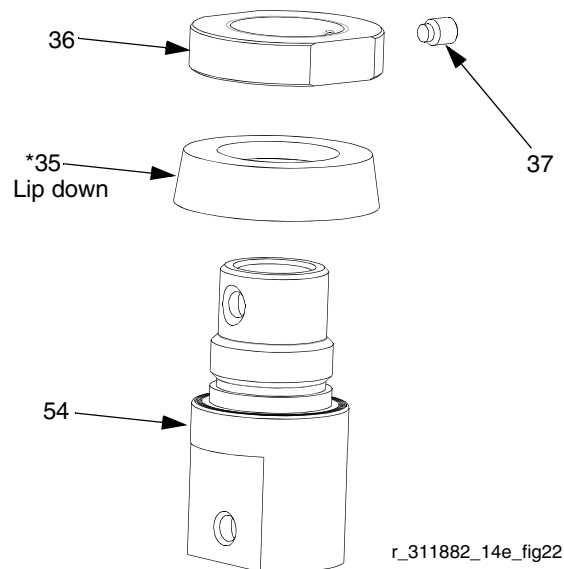

FIG. 23
- Loosen set screw (37) from collar (36). Remove collar from piston housing (54). Remove u-cup (35*). Inspect all parts for damage. See FIG. 23.